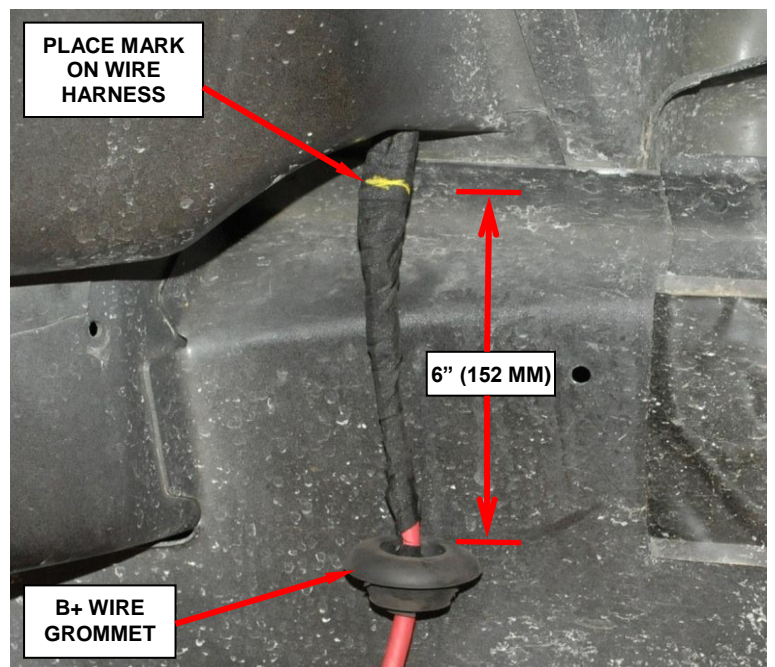

Figure 6 – Engine B+ Wire and Grommet
22. Pull the engine B+ wire and grommet down to expose the wire above the grommet (Figure 6).
23. Measure up from the grommet approximately 6 inches (152 mm) and place a mark on the engine B+ wire (Figure 6).